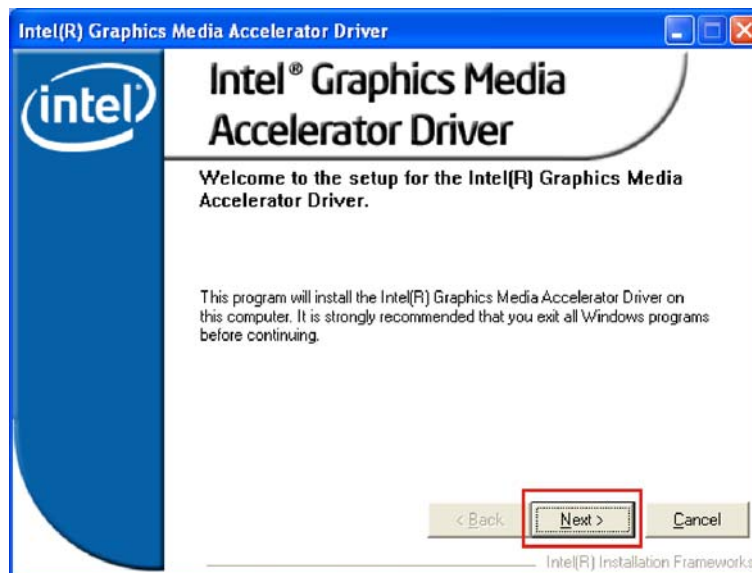

Figure 7-13: VGA Driver Welcome Screen
Step 8: The **Welcome Screen** in Figure 7-13 appears.